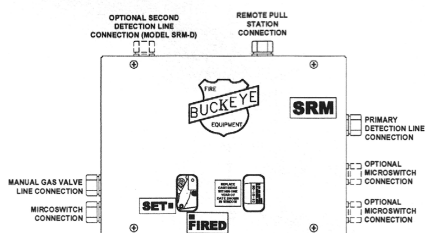

Figure 4.
After installing the fusible link line, pull station line, and gas valve line, back to the location of the SRM, the SRM can be connected and put into the "set position". When penetrating the SRM only the appropriate knockouts and 1/2" EMT connectors can be used. See **Figure 4**.
1. Feed the Fusible Link Line cable through the top right-side knockout as shown. See Figure 4.